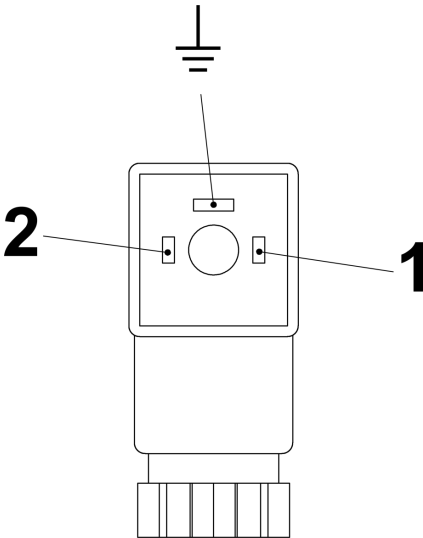
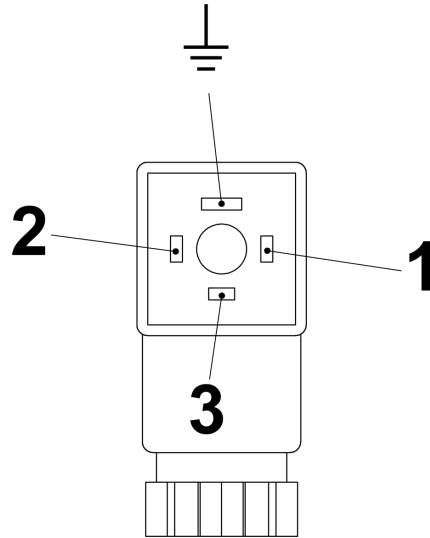

Fig. 26: Pin assignment, plug socket, Normally Open Contact (Form 15x50)
Fig. 27: Pin assignment, plug socket, Change-over contact (Form 15x50)
6. ➤ Make the connections as shown in the connection diagram (Fig. 26 und Fig. 27)